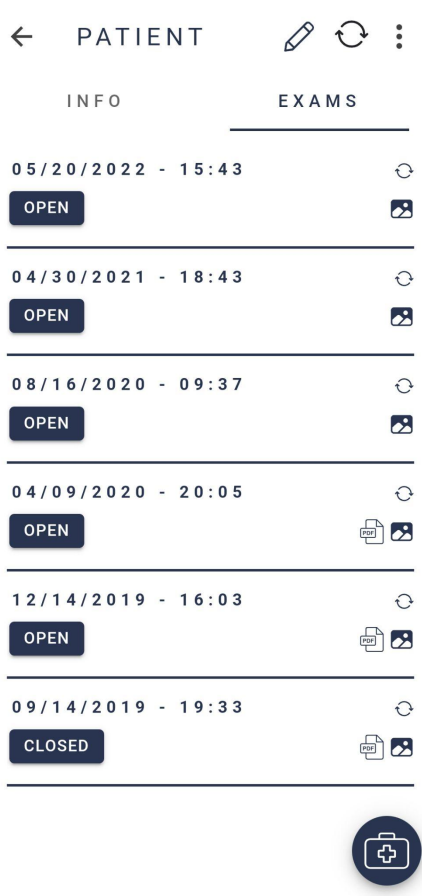

Figure 46: List of patient exams.
Patient progression is a function of temporal analysis of a patient's evolution. To generate it, enter the list of patient exams, 3.2.1.1.2.3 Exams, click on the symbol , Figure 46, under "Patient Progression", Figure 47, on the symbol  to view the images of this exam, Figure 48, click and hold to select an image, Figure 49 - item 1, and click to generate the symbol , Figure 49 - item 2. Images from different areas of the retina can be chosen, but they must be from the same eye. Confirm with "Create", Figure 50, and wait, Figure 51.